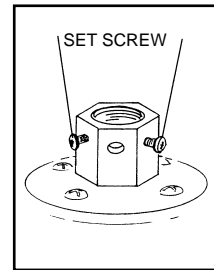

Fig.6
Step 2. Loosen the two set screws in the top coupling of the top housing assembly. (Fig. 6)